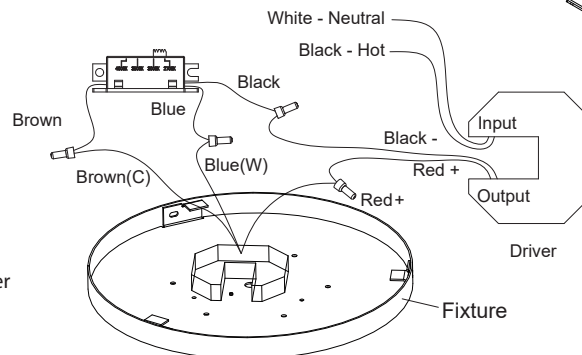

Fig.4 Switch
3. Remove the mounting screws (B) from the fixture, take down the mounting plate.
4. Set color temperature at this stage. The fixture can switch between four color (2700K-3000K-3500K-4000K), which can be adjusted your preference using the 4CCT switch (Fig. 4) mounted in the canopy.